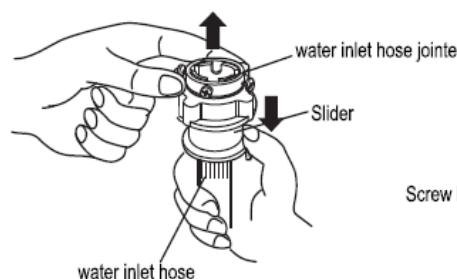

Figure 1
1. Press the lower end and push down the slider. Take off the water inlet hose jointer from the water inlet hose component. See to Figure 1